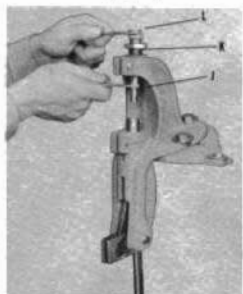

FIG. 5
Place nose punch bushing (K) into head of tool. Place shoulder bolt (L) through bushing and thread nose punch (J) into position and tighten with wrenches provided. See Fig. 5.